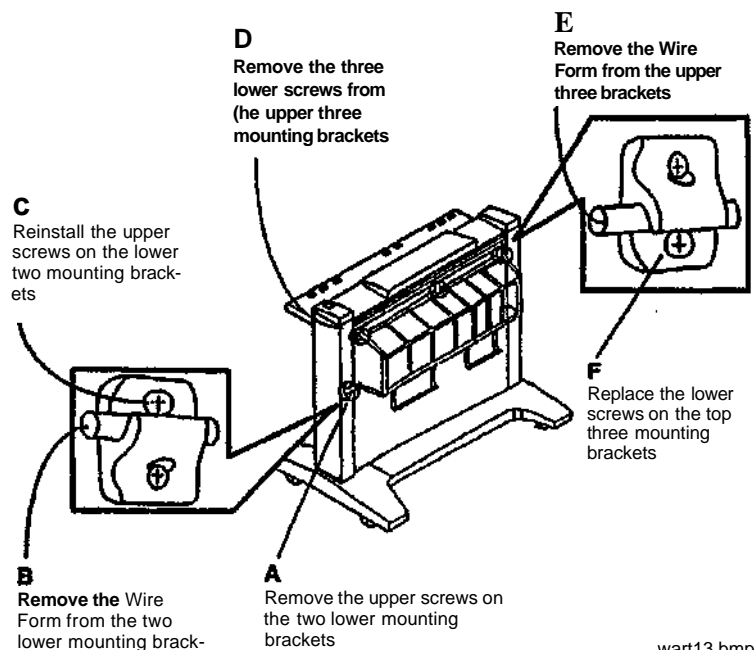

Figure 1 Removing the Wire Form
1. (Figure 1): Remove the Wire Form.
1. (Figure 1): Replace the Wire Form.